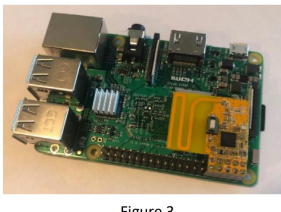

Figure 3
4. The ZAC93 GPIO module is powered by the standard 3.3V power supply on the PI motherboard, as shown in Figure 3 after installation.